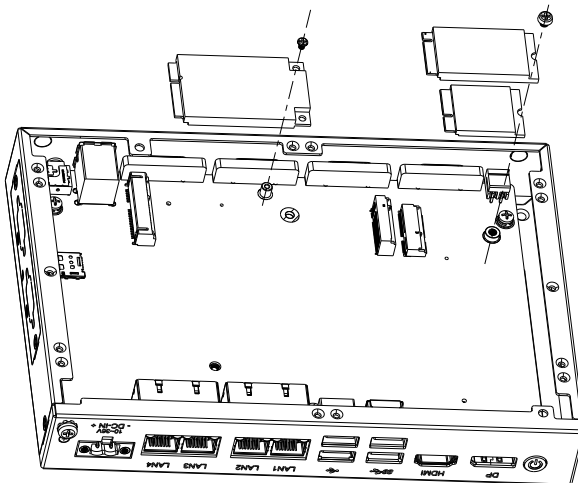

Figure 3-2-2
2. Mini-PCIe: flathead screw (M2x3) to screw hole; M.2-SSD and M.2-WiFi: Secure the M3x4 hex nut to the screw hole, insert the module 2230 into the M.2 2230 slot, and then, after installing the M.2 2242, secure it to the stud with a roundhead M3x6 screw; as shown in Figure 3-2-2.